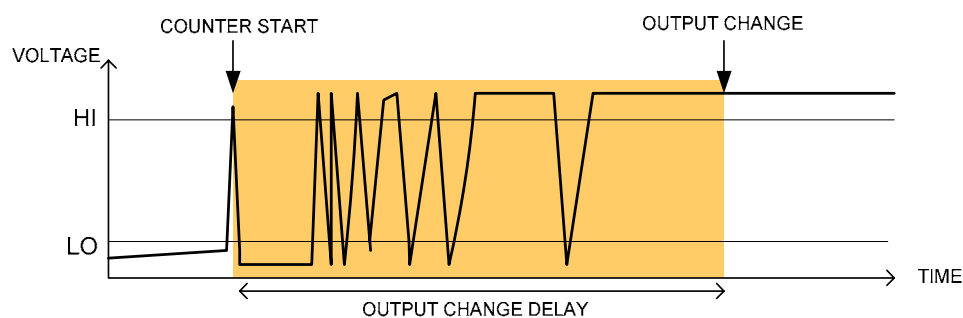

Figure 2 HPDETECT Voltage Bounce and Switch-over Delay after Headphone Insertion
To prevent the bounce effect hysteresis is needed. This is achieved by adding a delay before switching output. The switch-over delay (SD) is implemented with a digital counter. The counter starts, when HPDETECT initially meets the threshold limit and stops after a defined time. Figure 2 shows the HPDETECT voltage bounce and the switch-over delay after headphone insertion.